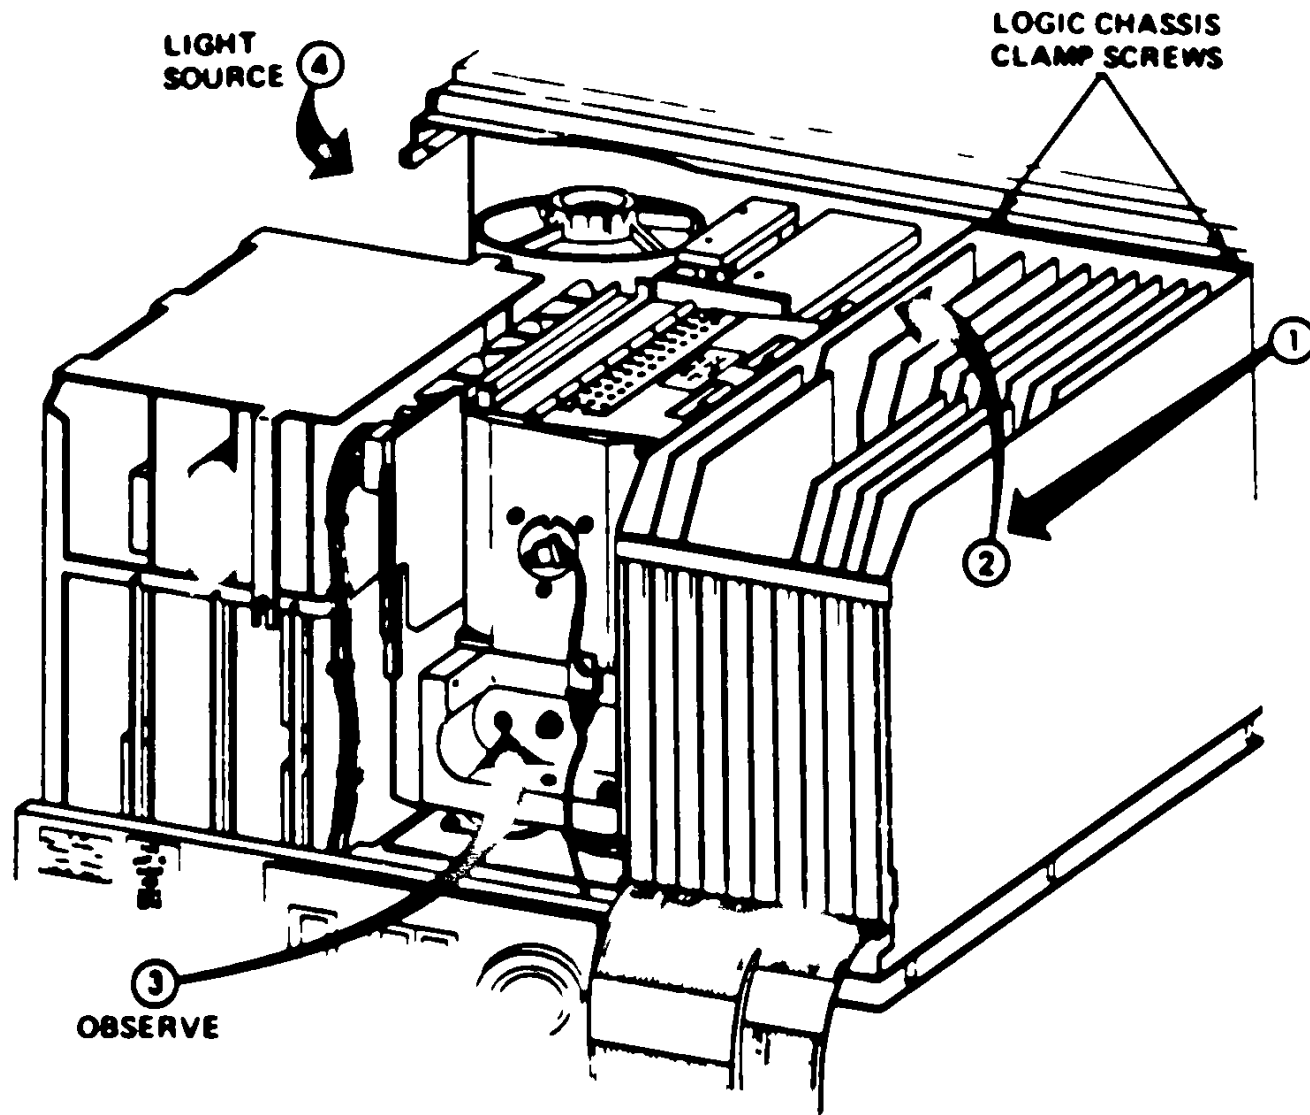

Fig 1
- 3) From the rear of the drive, loosen the logic chassis clamp screws (see figure 1).
- 4) CAREFULLY slide the logic chassis (on its hinges) towards the rear of the drive and then up and to the left (counterclockwise) into the maintenance position (arrows 1 & 2, figure 1).
- 11) With the upper deck in its LOWERED POSITION, check for adequate clearance on the "other" side of the transformer. This will be the side of the transformer closest to the power supply. This area may be observed by looking through the hole in the rear of the positioner (arrow 3, figure 1) and applying sufficient light (with a flashlight) as shown by arrow 4 in figure 1. Assure there are no pinched wire harnesses and no chance of damage due to contact between the transformer or transformer winding assembly and other surrounding components or chassis.
- 13) Carefully return the logic chassis to its operating position and retighten the clamp screws (figure 1).